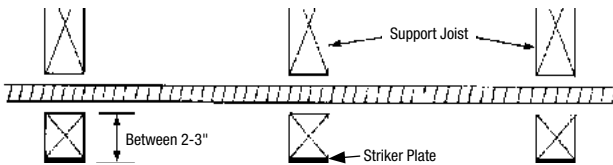
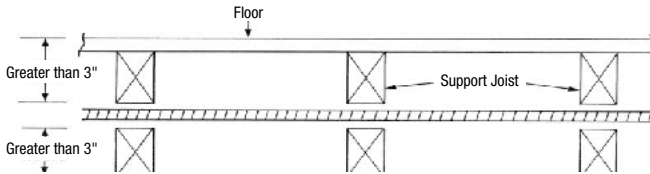

Figure 4.10 Shielding at Support Area When Penetration is 2-3 inches from Edge
Figure 4.12 Penetration Point Greater than 3" from Edge of Stud, Joist, Plate, etc.
- 2. At support points and points of possible penetration 2-3 inches from any edge of stud, joist plate, or other member, shielding is required throughout the area of support. (Figure 4.10)
1. Support tubing such that it is more than 3 inches away from any outside edge of a stud, joist, plate, etc., or wall surface. (See Figure 4.12 compared to Figure 4.10)